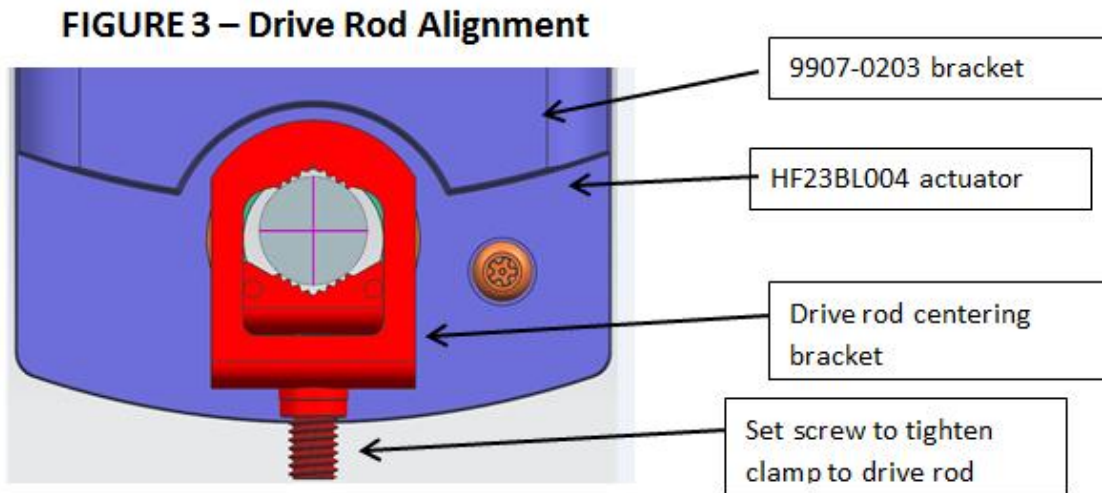
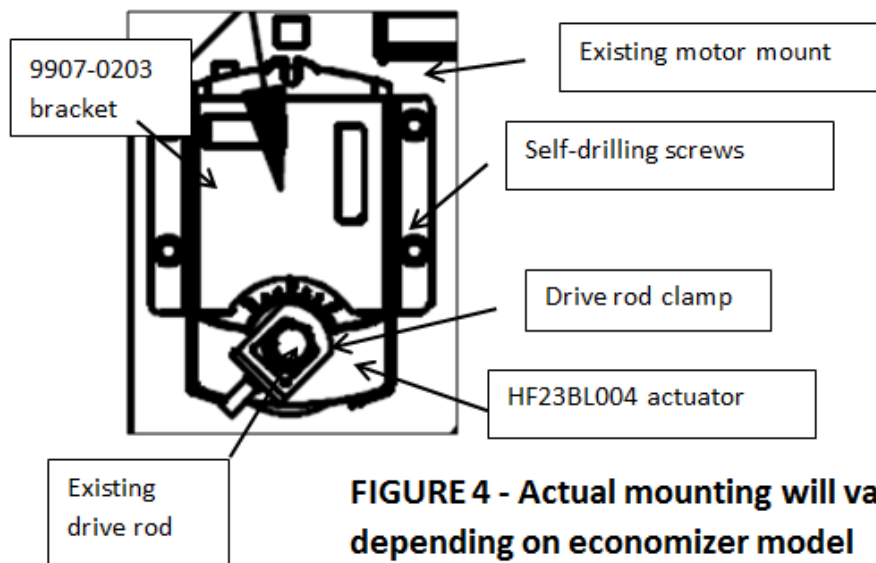

**FIGURE 1: shown with a clockwise rotation**
**FIGURE 2: shown with a counter-clockwise rotation**
5. Loosen the (2) nuts on the Belimo actuator's drive rod clamp. The drive rod is now loose from the actuator.
8. Check the required actuator rotation direction for your specific economizer. Note the actuator is capable of being turned either way (dark side out or light side out) to get damper rotation in either clockwise or counter-clockwise direction. Light actuator side pointing out away from the economizer provides a clockwise rotation (figure 1), while the dark side out provides a counter-clockwise rotation, which is the default (figure 2). Drive rod clamp can be installed on either side of the actuator. Install it on the side of the actuator pointed away from the economizer.
9. Insert the new Siemens HF23BL004 actuator into the 9907-0203 bracket with correct rotation determined. See figure 1 and 2 below. Note: the actuator clamp may have to be relocated so that it is on the side of the actuator facing away from the economizer